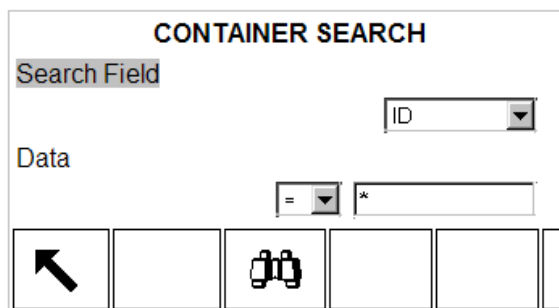

Figure B-1: Container Tare Table Search Screen
1. Press the CONTAINER TARE TABLE softkey  to display the search screen as shown in Figure B-1.